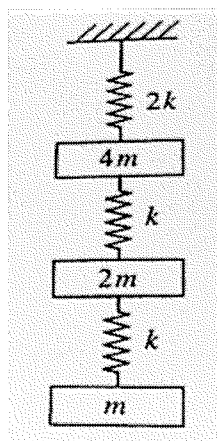

Figure 4
8. Find the fundamental natural frequency of vibration for the system of the system as shown in Figure 4. below by Stodola method.